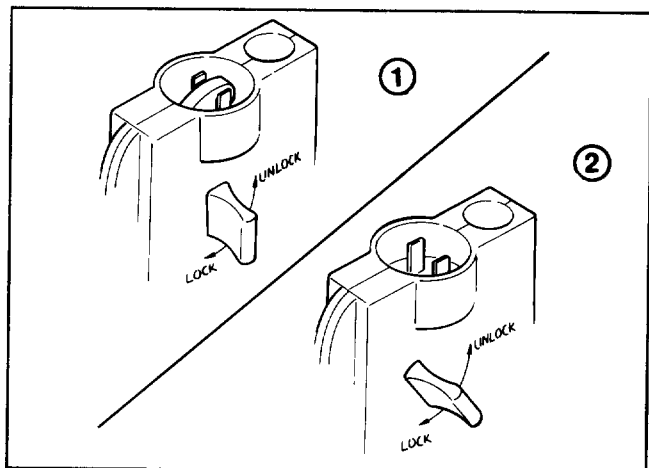

Figure 6
3. To unlock the snowthrower, push key into the hole (Fig. 6). While holding key down, turn key counterclockwise. Interlock tab rotates away from prongs, allowing extension cord to be plugged in
(Fig. 6). Do not attempt to remove key when in the unlocked position.
4. Lock snowthrower cord when unit is not being used. Remove cord and push key into hole. While holding key down, turn key clockwise, and remove key (Fig. 6). Store key in a memorable place.